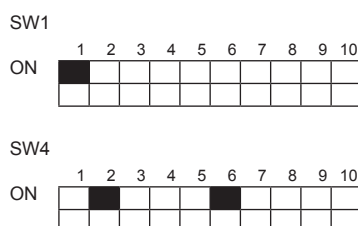

Fig. 2-2
2.4.3. Switch settings (Fig. 2-2)